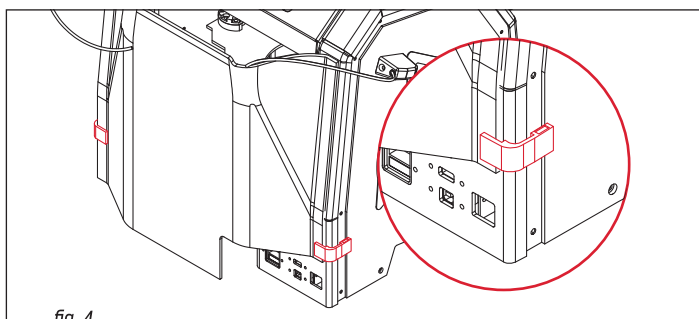

fig. 4
5. Mount the clips on the rear enclosure part. The side of the magnetic clips should fit into the recess on the printer (fig. 4).